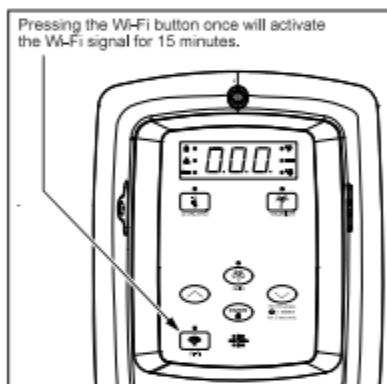

Figure 21 - Wi-Fi Control
- To activate the Wi-Fi signal, press the Wi-Fi button once. The LED will blink on and off in 0.5 second intervals. Wi-Fi will activate pairing mode (Figure 21).